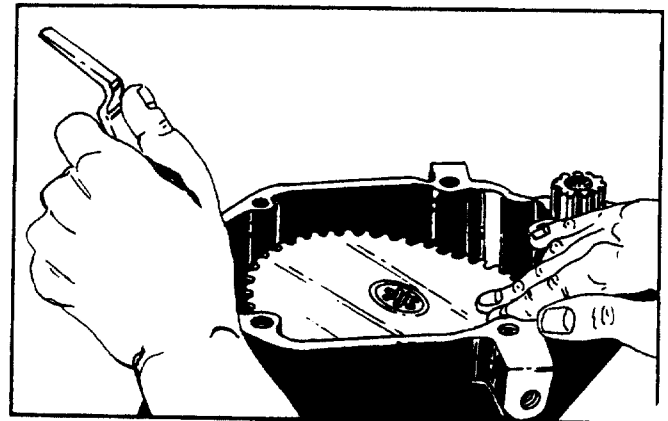

FIGURE 10.
2.202 Unbolt reduction housing cover plate seven (7) bolts. Tap cover to loosen, peel off gasket and discard. Remove screw in the center of the reduction gear, lift up and tip up on opposite side of pinion until the gear can be lifted out. See figure 10.